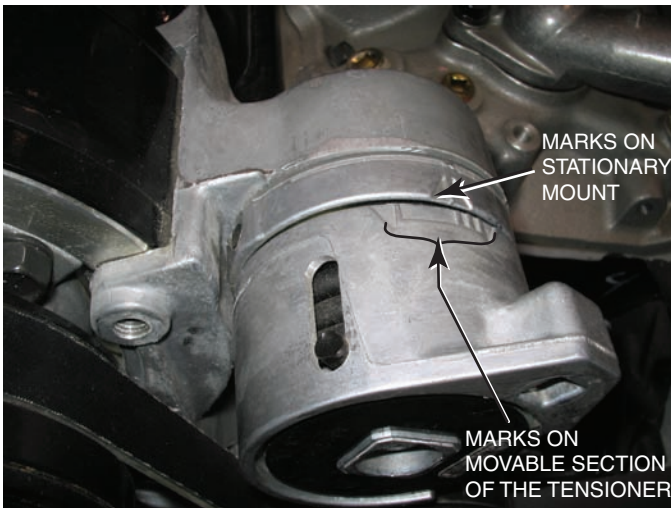

FIGURE 14-31 Typical marks on an accessory drive belt tensioner.
2. **Marks on the tensioner.** Many tensioners have marks that indicate the normal operating tension range for the accessory drive belt. Check service information for the location of the tensioner mark. ● **SEE FIGURE 14-31.**